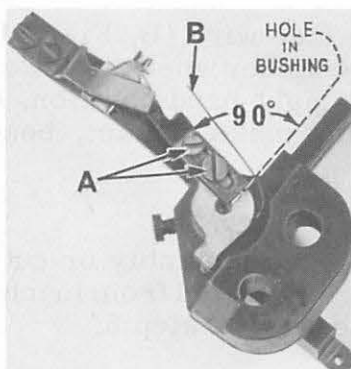

Fig. 31
2. Position upper knife (D) parallel with the left side of the arm of the positioning finger. Check to see that the lower knife is parallel with the upper knife. If this is not so, loosen the finger set screw (E) and turn the eccentric bushing (F) until the knives are parallel. A good starting point would be to have the pin hole in the eccentric bushing (F) located approximately 90° to the right side of the arm of the positioning finger (Fig. 31).
6. Be sure the spring retainer wire (B, Fig. 31) contacts the bobbin case holder when the lower knife is in its extreme right hand position. If the spring wire does not make contact, bend retainer wire to suit.